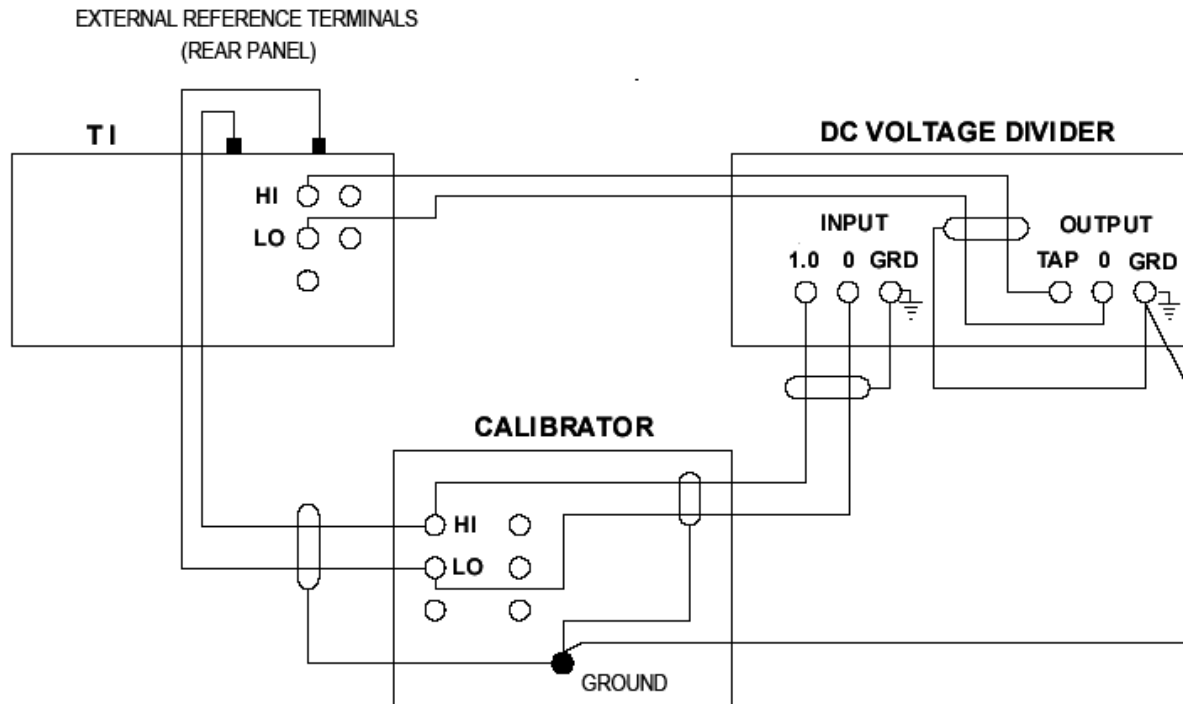

Figure 1. Dc ratio - equipment setup.
- (1) Connect equipment as shown in figure 1.
- (2) Press **VDC FUNCTION** and **AUTO RANGE** pushbuttons.
- (3) Set dc voltage divider dials to **.999999X**.
- (4) Set calibrator for 10 V dc output.
- (5) Press and hold **EXT REF** pushbutton. TI will indicate between 9.9998 and 10.0002 V.
- (6) Release **EXT REF** pushbutton. TI will indicate between 0.9996 and 1.00004 V.
- (7) Set dc voltage divider dials to **0.1000000**. TI will indicate between 99.995 and 100.005 mV.
- (8) Press **EXT REF** pushbutton to toggle **TI** out of the external reference mode.